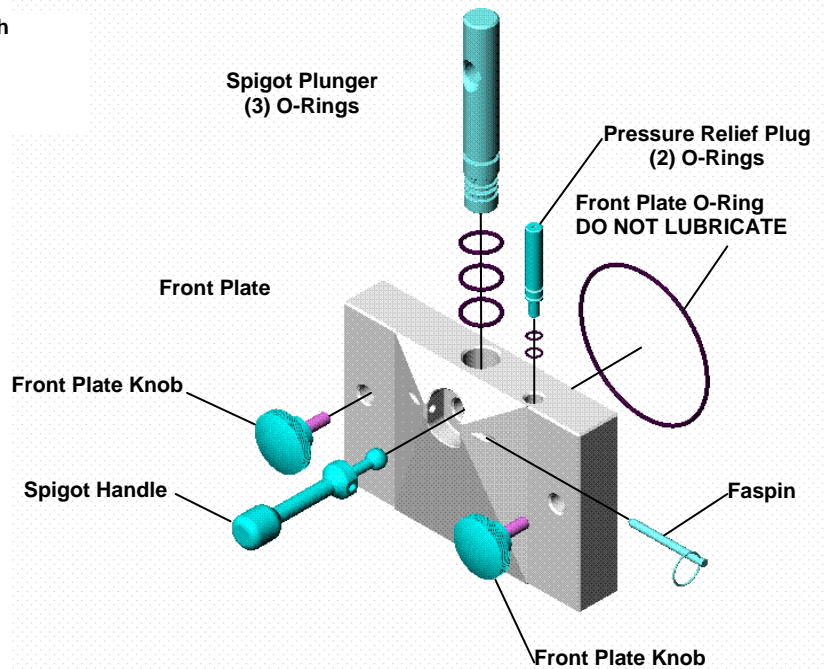

Fig. 21
- a. Install the three o-rings on the spigot plunger AND two O-rings on the Pressure Relief Plug by rolling them onto the plunger. Seat the o-rings in the grooves. Be certain that they are not twisted. Smooth the lubricant into the grooves and over the sides of the plunger and Pressure Relief Plug assemblies (Fig. 21).